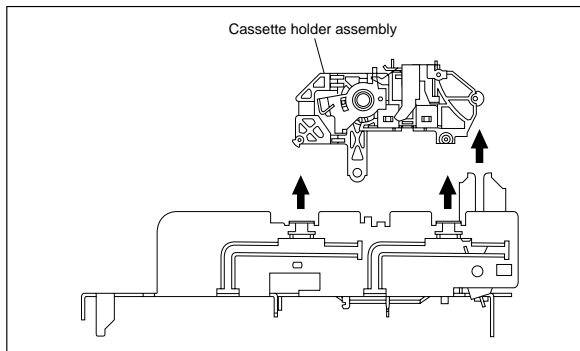
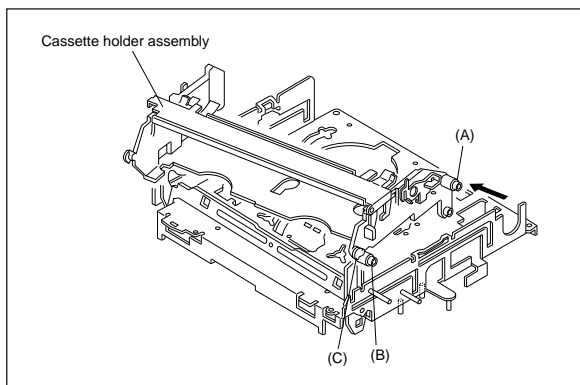

Fig. 2-2-3d
Fig. 2-2-3e
- (5) While holding the left side of the cassette holder, lift the cassette holder assembly so that the three legs on the left side are all released. Then pull the legs (A) and (B) on the right side out of the rail and also pull up the leg(C). (See Fig.2-2-3d and Fig.2-2-3e.)
- (6) Draw out the drive gear, and remove the drive arm.